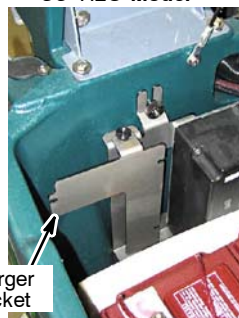

Fig. 4
4. Re-install the charger bracket and foam battery spacers (Fig. 4).